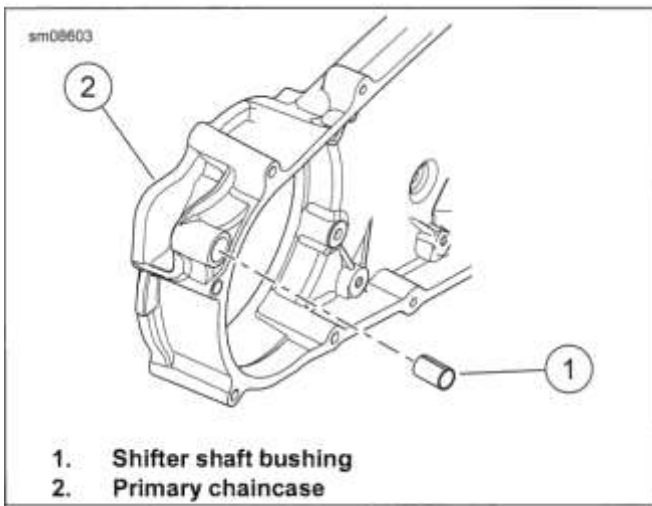

Figure 5-33. Shifter Shaft Bushings
1. See Figure 5-33. Press out old bushing (1) from front to back.